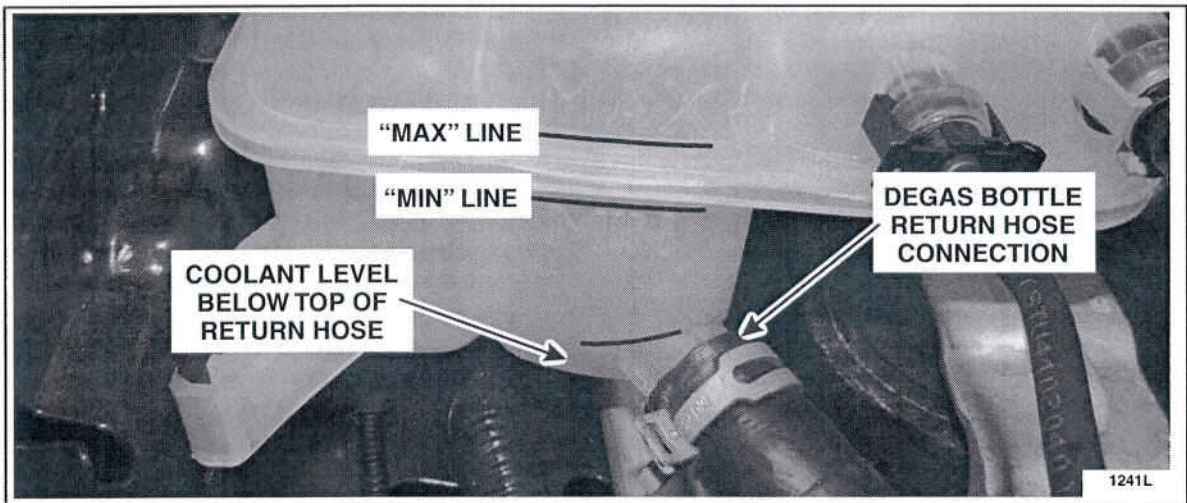

FIGURE 2
10. Visually inspect for proper coolant level in the degas bottle. Coolant should be between the "Min" and "Max" lines on the degas bottle. See Figure 2.
- If coolant level is below the top of the degas bottle return hose connection (see Figure 2), contact the Special Service Support Center (SSSC) for further instructions at 1-800-325-5621.